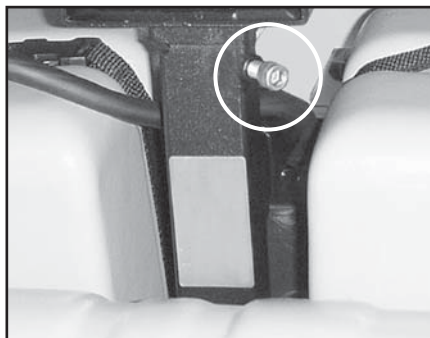

Figure 7C
3. Slide the controller bracket forward until it hits the key slot. (See Figure 7B, below). Remove bracket from arm and place on footrest or other safe location. Unlock cable from seat. (See Figures 7C, Page 44).
3. Using the 1/4 inch hex wrench supplied with the vehicle, loosen the cap screw located at the top-front corner of the seat post. (See Figure 7c below).